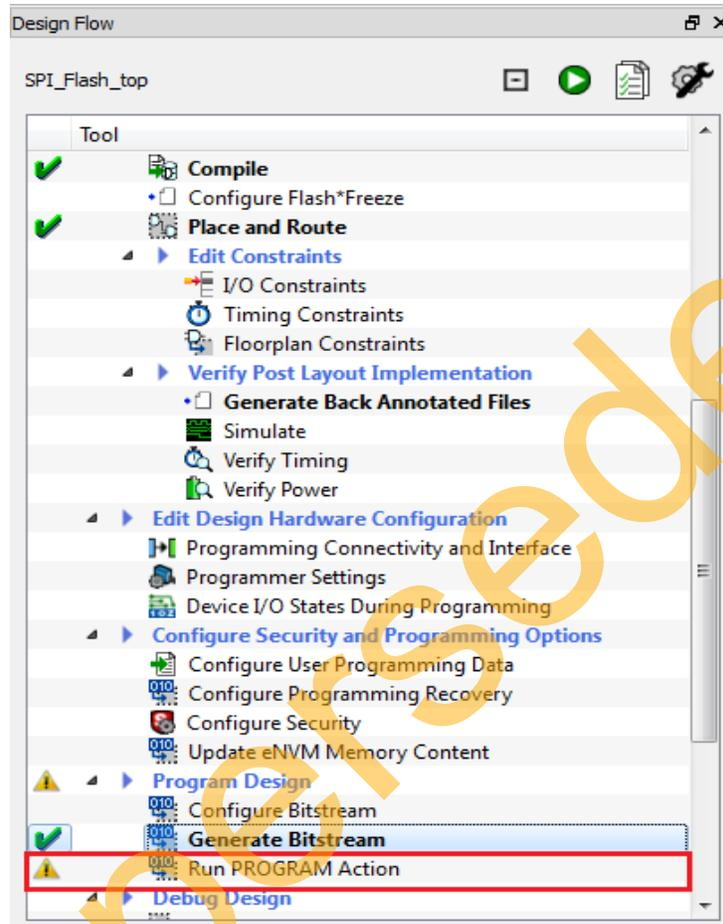

Figure 19 • Run Program Action
- To program the SmartFusion2 device, double-click **Run PROGRAM Action** in the **Design Flow** window as shown in Figure 19.